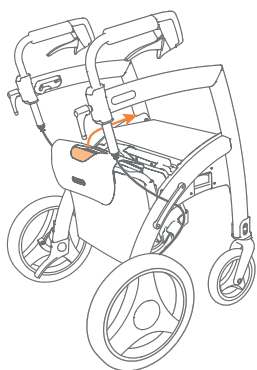

Figure 33: Pull the backrest upwards and forwards.
- b. To convert the walker to a transport chair, the transport chair package needs to be pulled up. Take the handle of the transport chair and pull slightly up and towards the front until halfway up the frame (**Figure 33**).